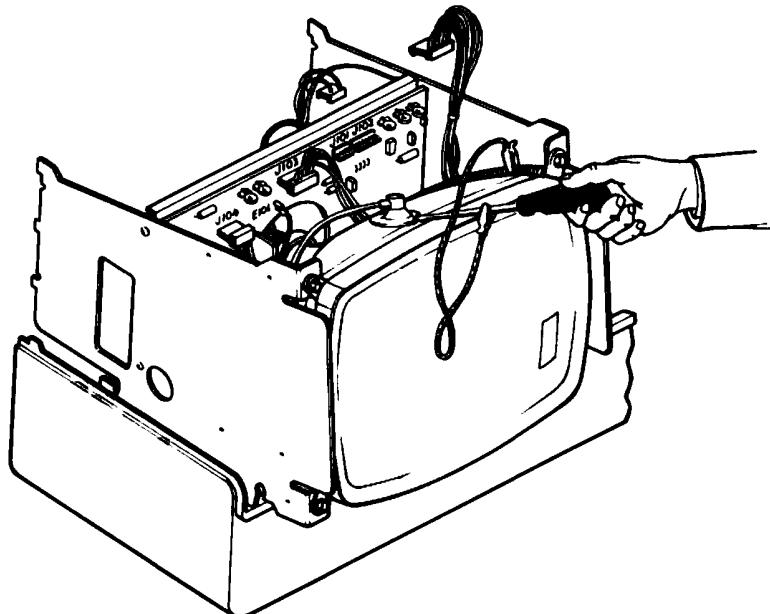

Figure 7-9 CRT Discharge Procedure
2. Attach one end of the wire jumper to the aquadag spring (located on the tapered back of the Cathode Ray Tube). Refer to Figure 7-9 in the "Monochrome CRT Discharge Procedure" section of this chapter for an illustration of this attachment.